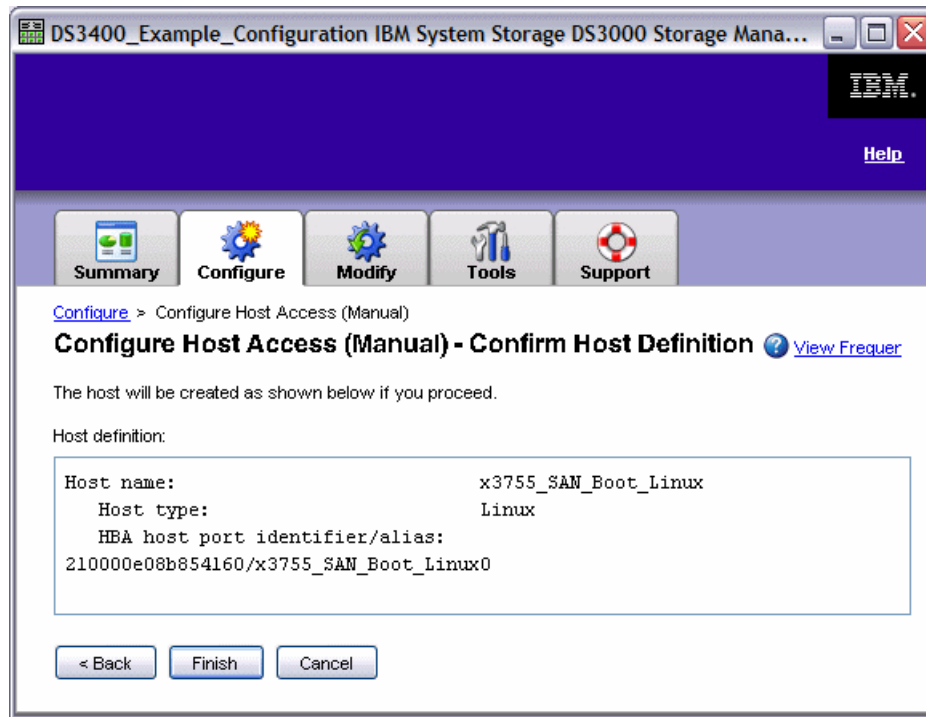

Figure 26-11 Confirm Host Definition
5. The confirmation window displays, as shown in Figure 26-11 on page 649. Review the host definition and click **Finish**.